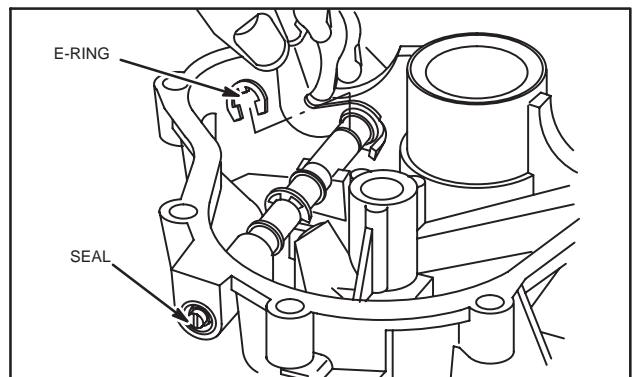

Fig. 9 – Remove Governor Shaft
4. Remove governor shaft from sump, Fig. 9.